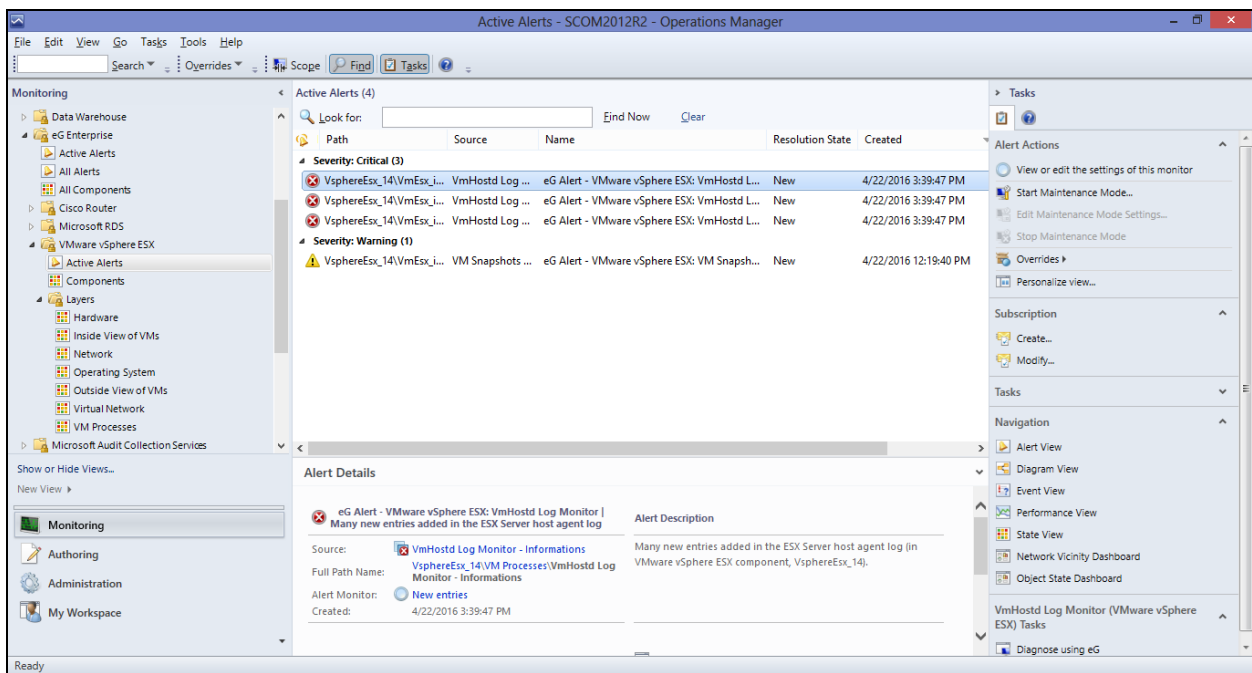

Figure 4.16: Viewing the active alerts of VMware vSphere ESX servers
To view the open alarms related to VMware vSphere ESX servers, click on the **Active Alerts** sub-node. Figure 4.16 will then appear.
6. In the right panel of Figure 4.16, you can view all the currently unresolved issues pertaining to VMware vSphere ESX servers, grouped by severity.